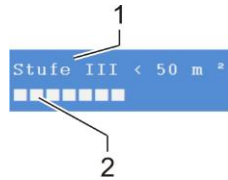

Fig. 6: Display
- Remove the filter grille by loosening the two screws (see fig. 6). Replace, if required.